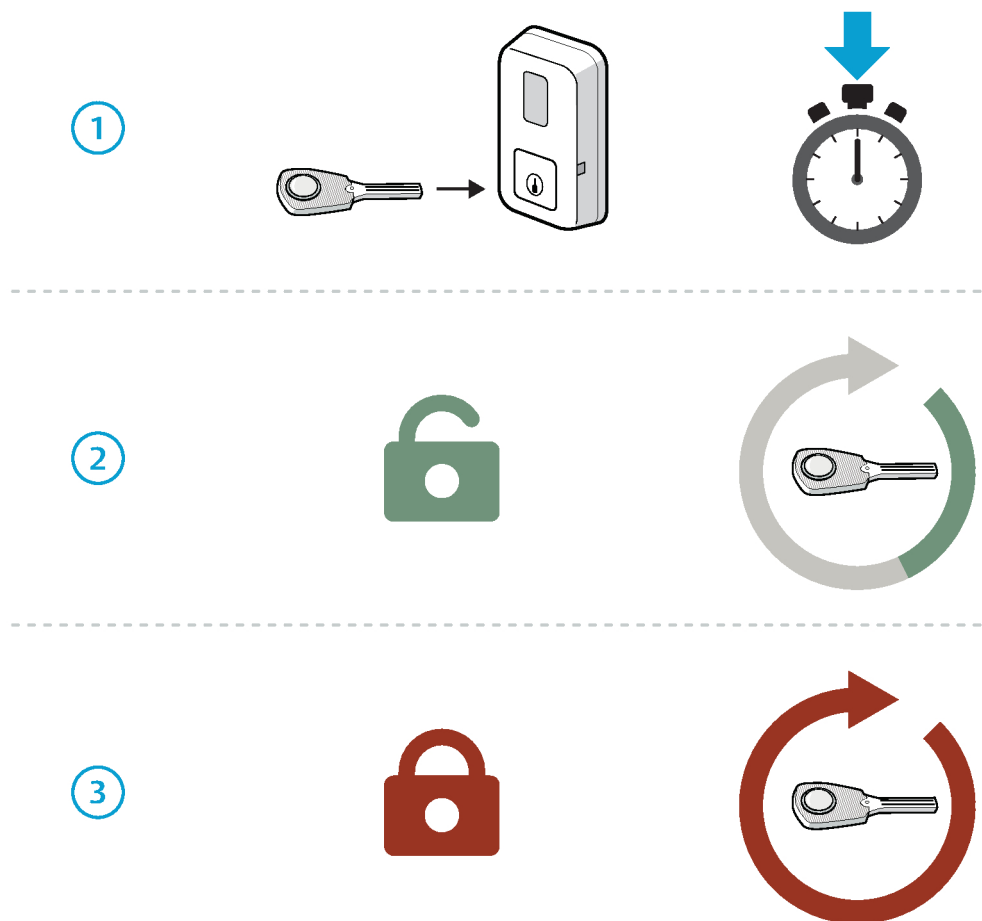

Figure 7. Key revalidation
Figure 7 *“Key revalidation”*, page 110 shows the principle of key revalidation. When a key is revalidated in a Remote PD a timer starts (1). The key has access as long as it is used within the revalidation interval (2). When the revalidation interval has expired (3) the key needs to be revalidated in a Remote PD (1). When the key is revalidated the timer is reset.